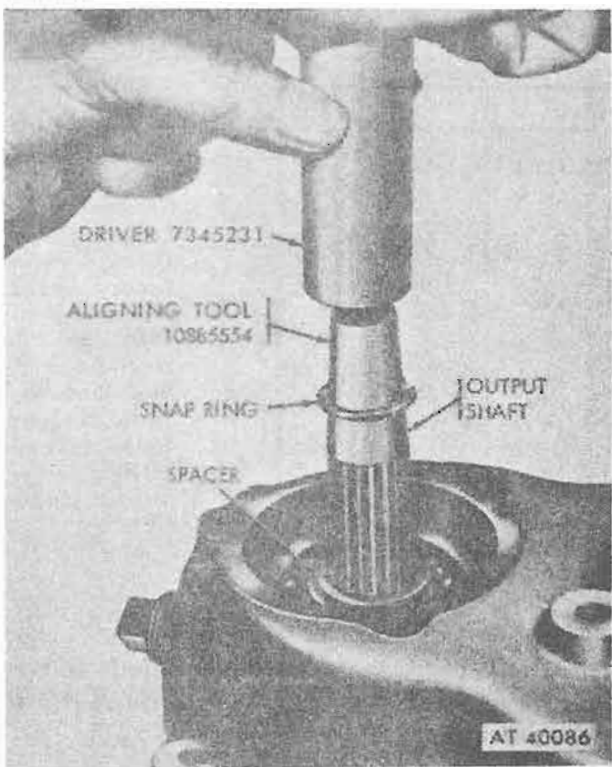
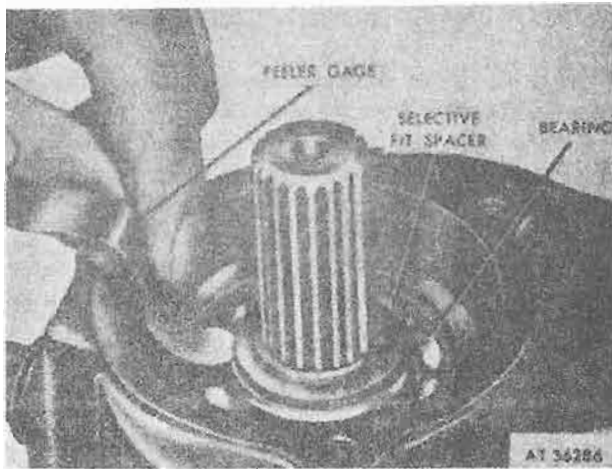

Figure 8-26. Installing spacer and snapping.
Figure 8-27. Check clearance between spacer and bearing.
e. Install selective-fit spacer on output shaft using alining tool (108855544) and driver (7345231). Secure with snapping and snapping retainer (fig. 8-26). Check clearance after installation (fig. 8-27).